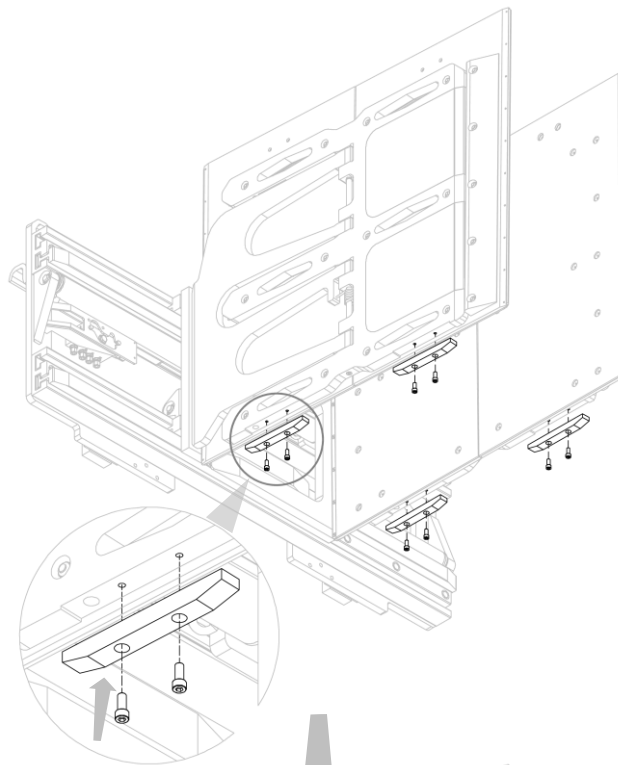
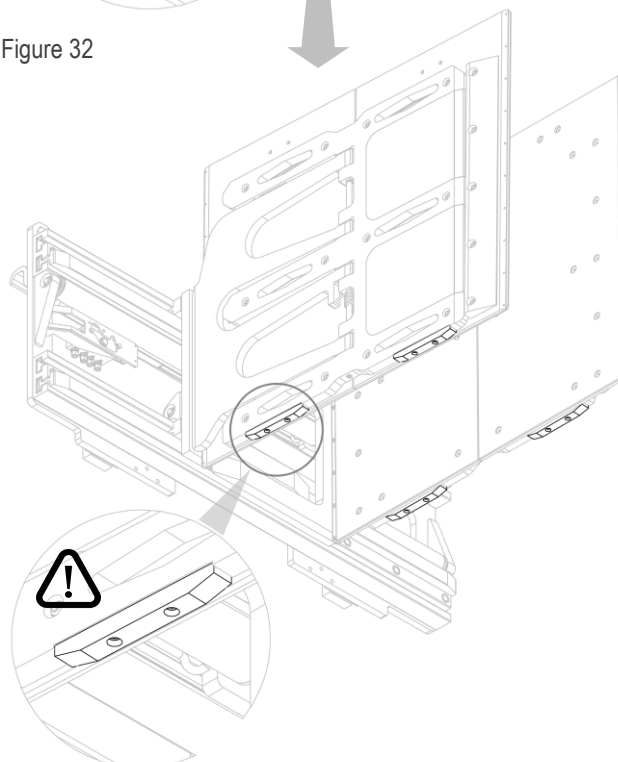

Figure 32
Figure 33
2. Mount the Ertalon lower anti-slip pads by screwing the screws into the respective holes (see *Figure 32* and *Figure 33*).